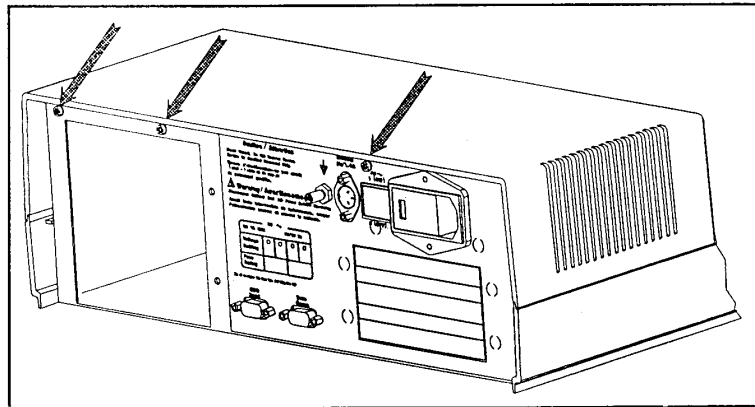

Figure 7-13. Opening and Removing the Top Cover Assembly.
6. Remove the three screws from the rear panel as shown in Figure 7-13.